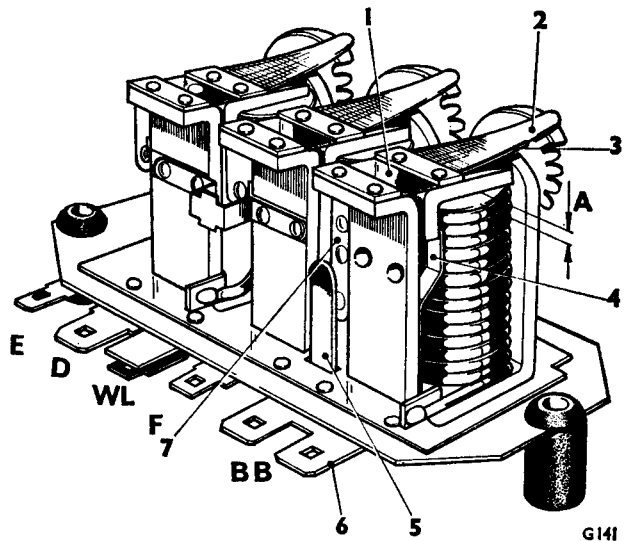

FIG. M46 CUT-OUT RELAY SETTINGS
7. Adjust the drop-off voltage by carefully bending the fixed contact bracket (see Fig. M46). Reducing the contact gap will raise the drop-off voltage and increasing the gap will lower the drop-off voltage.
1. As a first setting, insert a 0,38 mm. (0.015 in.) feeler gauge between the armature and the copper separation on the core face (*see Fig. M46*).